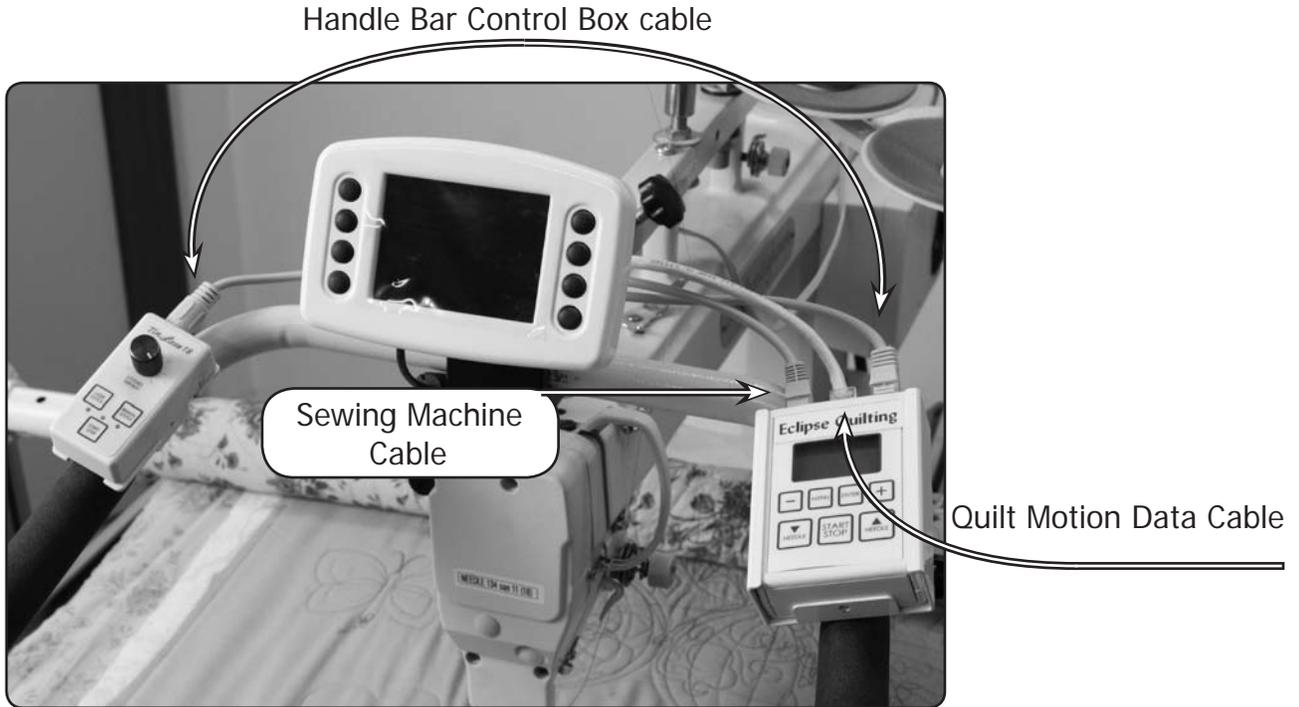

Fig. 9-2
Step 9-1: The QuiltMotion Data Cable connects from the QuiltMotion Motorplate to the Eclipse Box into the center connector. Then connect to the Handle Bar Control box using the Handle Bar Cable, as shown on **Page 11, Fig. 9-2 and 9-3**. The Computer USB Cable connects from the QuiltMotion plate to your computer.